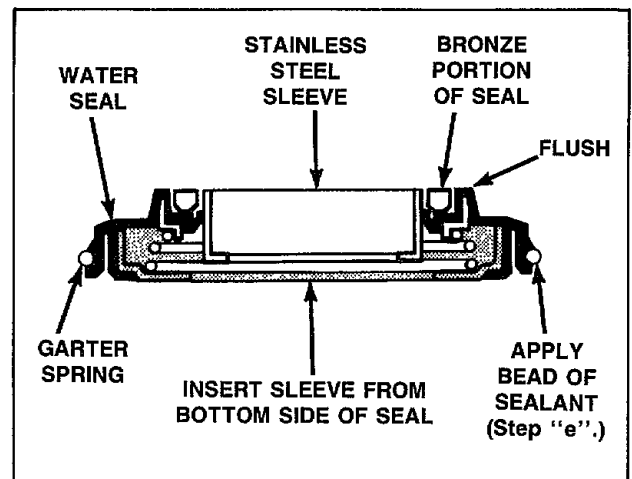

Figure 43
- c. Insert the stainless steel sleeve into the water seal from the bottom side of the seal, *Figure 43*, until the sleeve is flush with the bronze portion of the seal.
- e. Carefully apply a small amount of No. 27615 Sealant (supplied in kit) around the outer edge of seal and tub (the area located just below the garter spring, *Figure 43*).